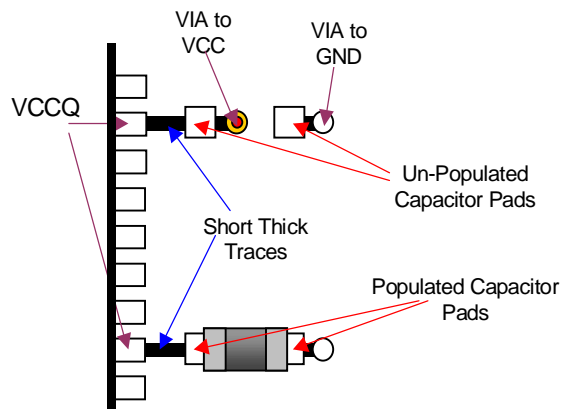

Figure 1. V_{cc} Pin Bypassing Scheme.
3. For each V_{CC} pin, place a capacitor as close as possible on the same side as the chip with a short thick trace connecting the pin and one end of the capacitor. This is then connected to the V_{CC} plane through a via (see *Figure 1*).